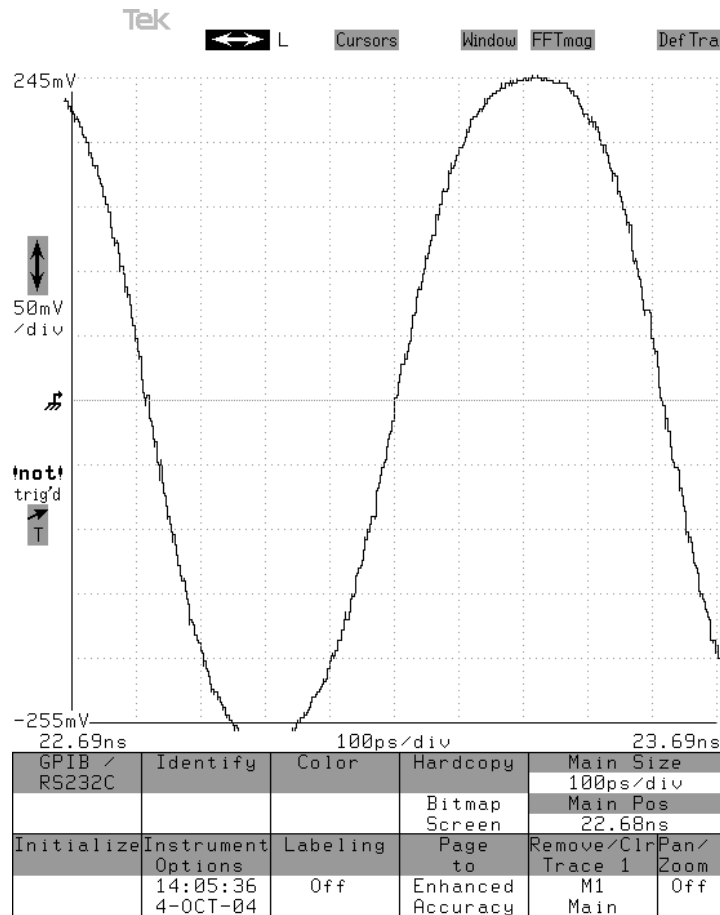

Figure 23: Centered rising edge
- a. Find a rising clock edge that is displayed between 20 to 30 ns horizontal timing position (if you need to adjust the position, select the horizontal and adjust the lower Horizontal knob to adjust the horizontal timing position); adjust the waveform so that the 50% rising edge crossing point of the clock signal is at the center of the graticule grid (see Figure 23) of the oscilloscope display (to adjust the position, select the horizontal or vertical and adjust using the lower knob).